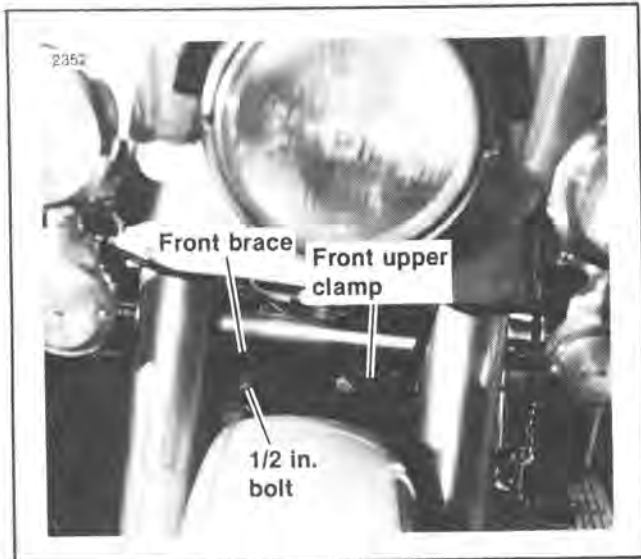

Figure 6-9. Front Brace Connection
6. See Figure 6-9. Connect front brace to front upper clamp with 1/2 in. diameter bolt, small flat washer, large flat washer, and elastic locknut. Nut and large washer should be to rear of motorcycle. Snug up bolt and nut, but do not tighten.
- See Figure 6-9. Disconnect front cross brace from upper clamp. We recommend a second person hold the motorcycle to keep it from falling over when disconnecting sidecar.